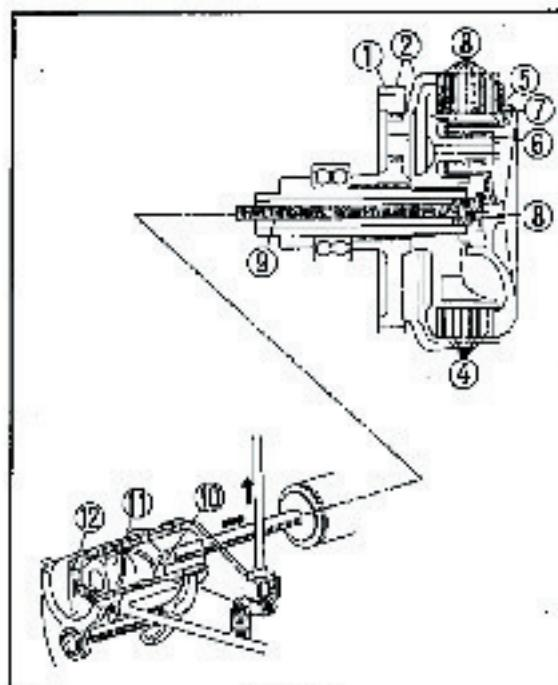
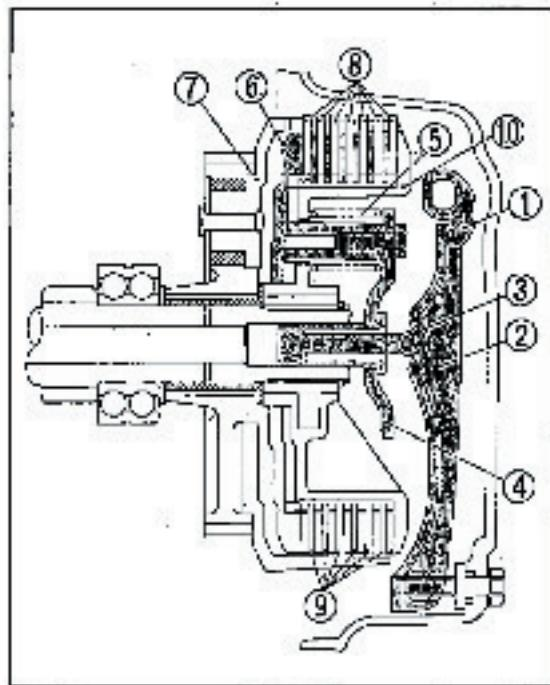

Fig. 334
Fig. 335
<p>Refer to Fig. 335 on page 115.</p> <p>The clutch connects and disconnects the engine from the transmission.</p> <p>As shown in Fig. 334, the clutch plates ④ ("drive plates"), which are capable of sliding axially on the clutch center ③, are "sandwiched" between the friction discs ⑤ ("driver discs") engaged in the clutch outer ⑥. In normal engaged condition of the clutch, the pressure plate ⑦, upon which the clutch springs ⑧ force is acting, presses the stacks of the discs and plates against the clutch outer. Under this condition, the engine power is transmitted through the primary drive gear ⑨, clutch cover, friction discs, plates and clutch center to the transmission main shaft. As the clutch lever is squeezed to disengage the clutch, the clutch lifter ⑩, connected to the clutch cable, is rotated and forced out. This clutch ball force is transmitted through the #10 steel ball ⑪, clutch lifter rod ⑫ and clutch lifter joints piece ⑬ to the clutch pressure plate to compress the clutch springs producing clearance between the friction discs and plates. Now the face pressure on the friction surfaces of the power transmitting parts is reduced to zero, resulting in clutch disengagement.</p>	<p>Refer to Fig. 335 on page 115.</p> <p>As shown in the figure, the clutch plates ④, which are capable of sliding axially on the clutch center ③, are sandwiched between the friction discs ⑤ engaged in the clutch outer ⑥. In normal engaged condition of the clutch, the pressure plate ⑦, upon which the clutch springs ⑧ force is acting, presses the stacks of the discs and plates against the clutch outer. Under this condition, the engine power is transmitted through the primary drive gear, clutch outer, friction discs, plates and clutch center to the transmission main shaft. As the clutch lever is squeezed to disengage the clutch, the clutch arm connected to the clutch cable operates and the clutch lifter case ⑩ rotates to cause the clutch adjusting lever ⑪ to be forced against the clutch lifter rod ⑫. This force is transmitted through the clutch lifter plate ⑬ to the clutch center, producing clearance between the friction disc and plates. Now the face pressure on the friction surfaces of the power transmitting parts is reduced to zero, resulting in clutch disengagement.</p>